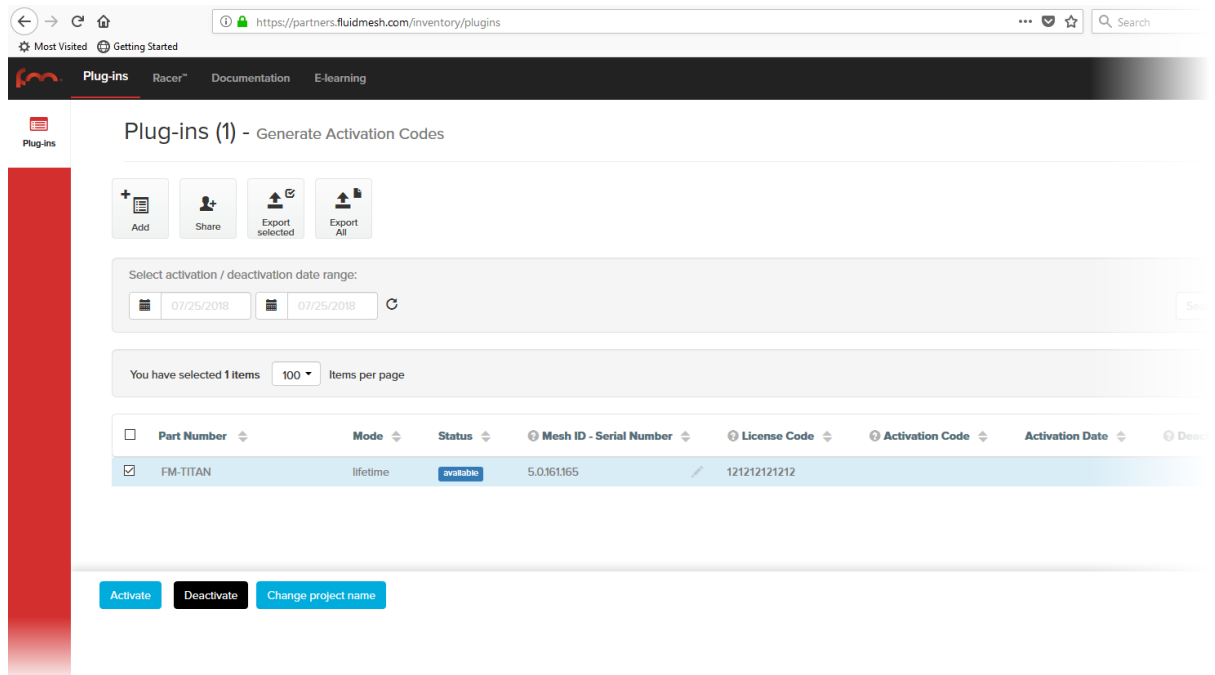

Figure 68. Partner Portal Plug-ins page (License code plug-in)
- When you purchase a generic 16-digit *License code*, the License code and corresponding plug-in will be listed on the Plug-ins page (Figure 68 \(page 150\)).